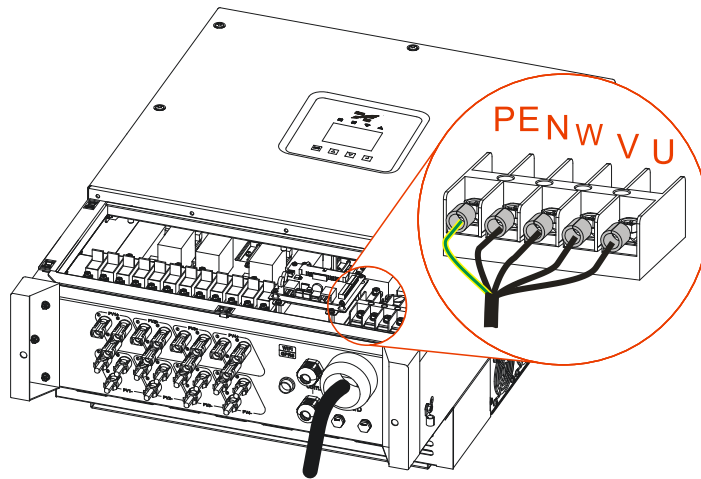

Figure3-22 Wiring diagram for AC wire
Step 3 Loosen the nylon cable gland in the " GRID " and draw the AC wires through it. Connect the wires to round terminals respectively, insert the wires into the corresponding wiring terminals respectively and tighten the screws on the wiring terminals by Phillips screwdriver(or socket wrench), as shown in Figure3-22.